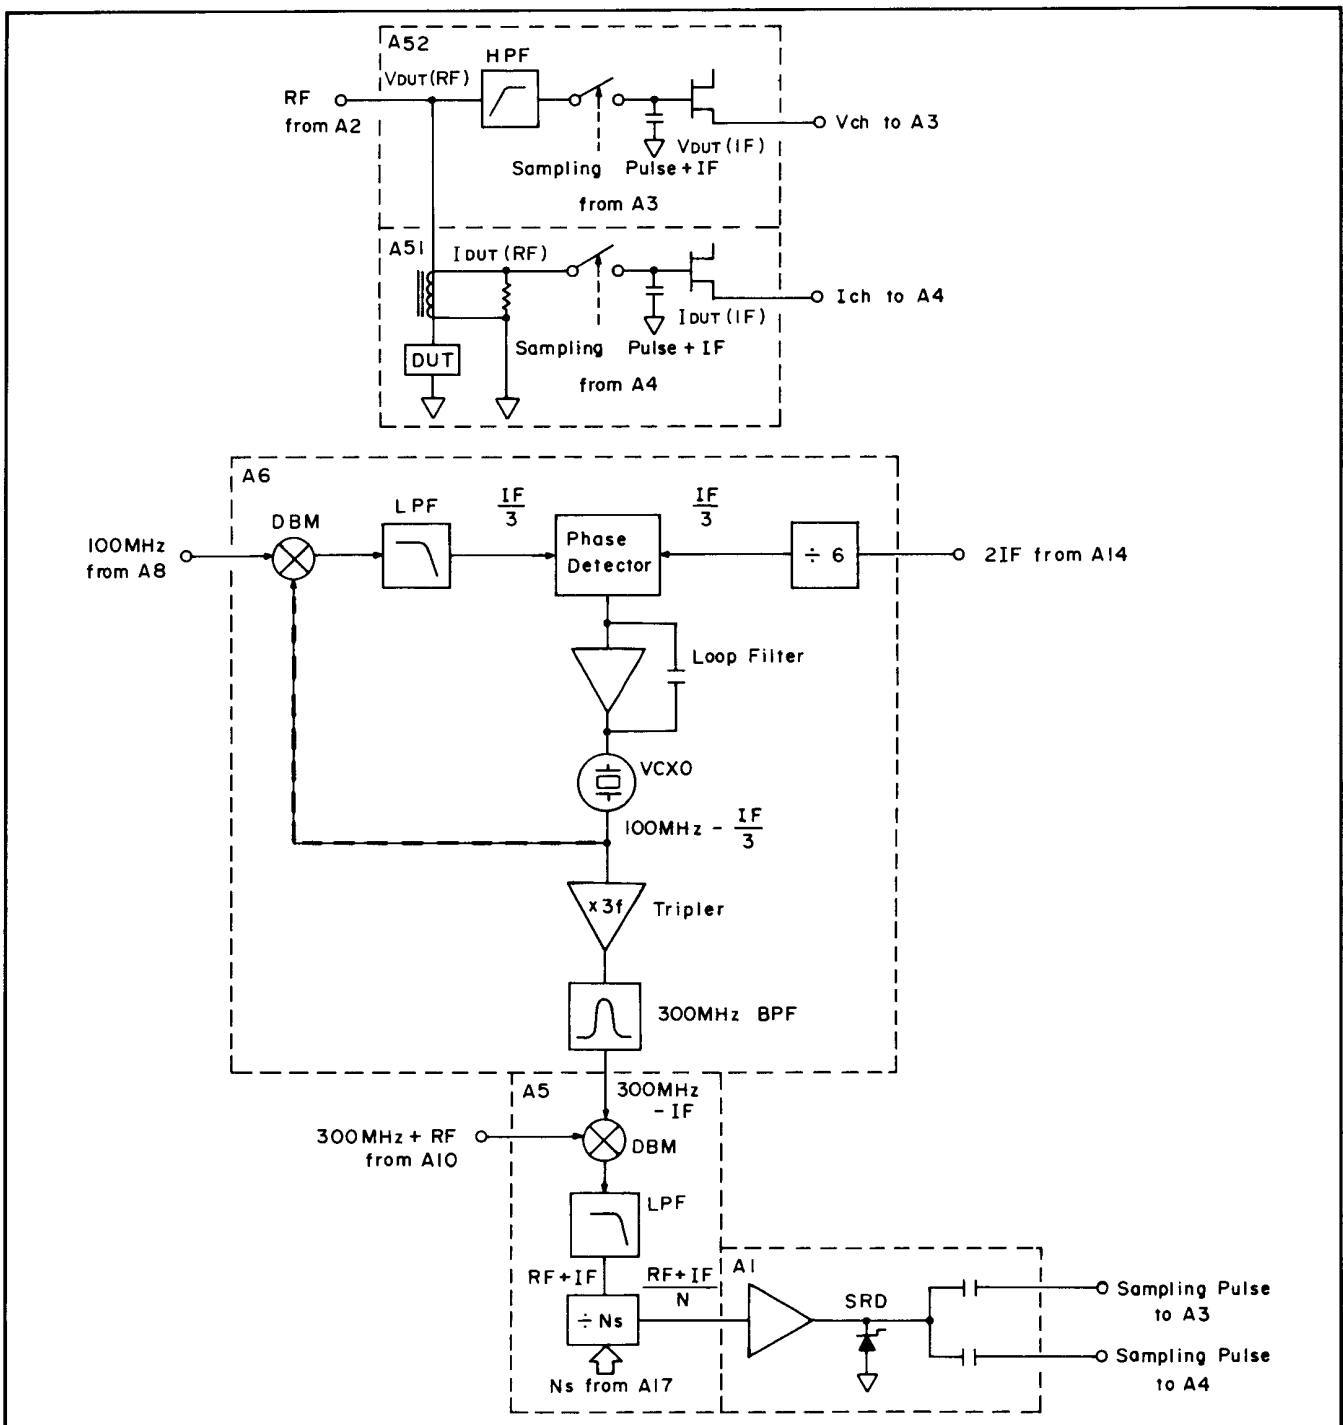

Figure 8-6. Sampling Block Diagram.
8-33. Refer to the Sampling Circuit block diagram in Figure 8-6. Two RF signals, V_{DUT} (RF) and I_{DUT} (RF), which represent the voltage across and the current through the DUT are each converted into a 9.765625kHz IF to facilitate measurement. RF-to-IF conversion is performed in the A51 Probe I-Channel and the A52 Probe V-Channel by sampling the injected RF signal at different points of the waveform. This produces two waveforms, V_{DUT} (IF) and I_{DUT} (IF), whose relative amplitudes and relative phase are identical to those of the original RF signals, but at a frequency more convenient for measurement.